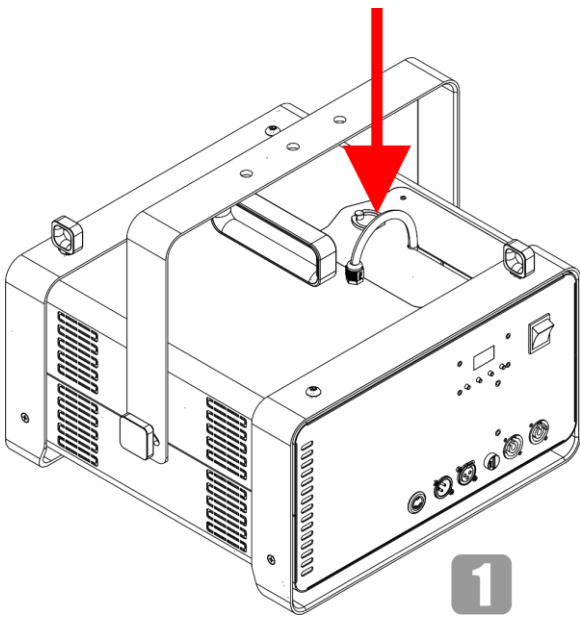

Fig. 09
- 01) Lift the small ring on top of the device to open the service lid, as shown in Fig. 09.